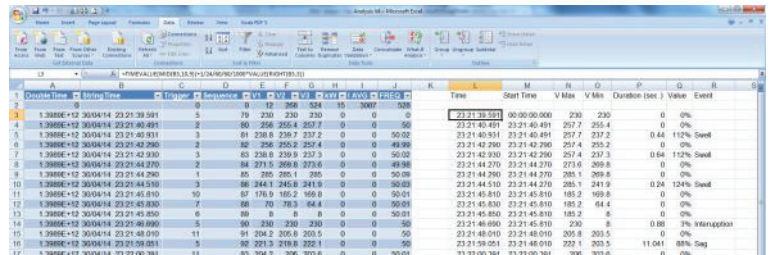

Figure 3 : Sag/Swell/Interruption Analysis
7. The MDB file was opened by Microsoft Excel (one can create an automatic link to MDB files to make the process automatic). See Figure 3